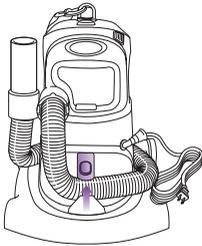

Fig. 19
- 3 Remove the telescopic tube from the flexible hose and wrap the hose around the base of the vacuum and hook the end of the hose into the hose dock. (fig. 19) To release the flexible hose, press the Hose Storage button.